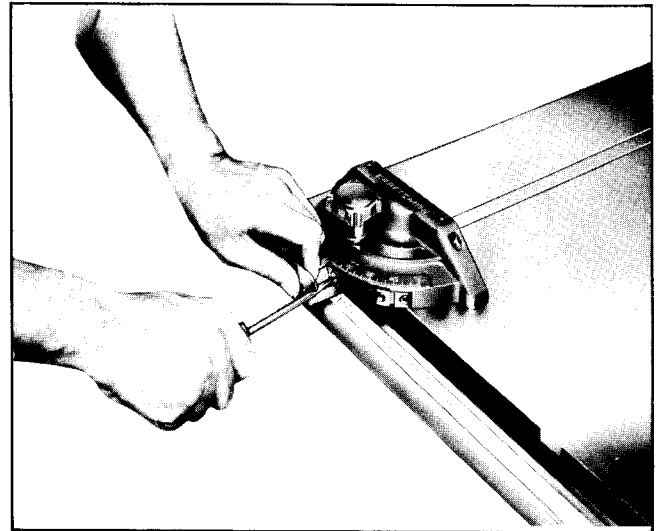

FIGURE 7
4. While holding the Indexing Plunger fully engaged, retighten the screws securely. See Fig. 7.